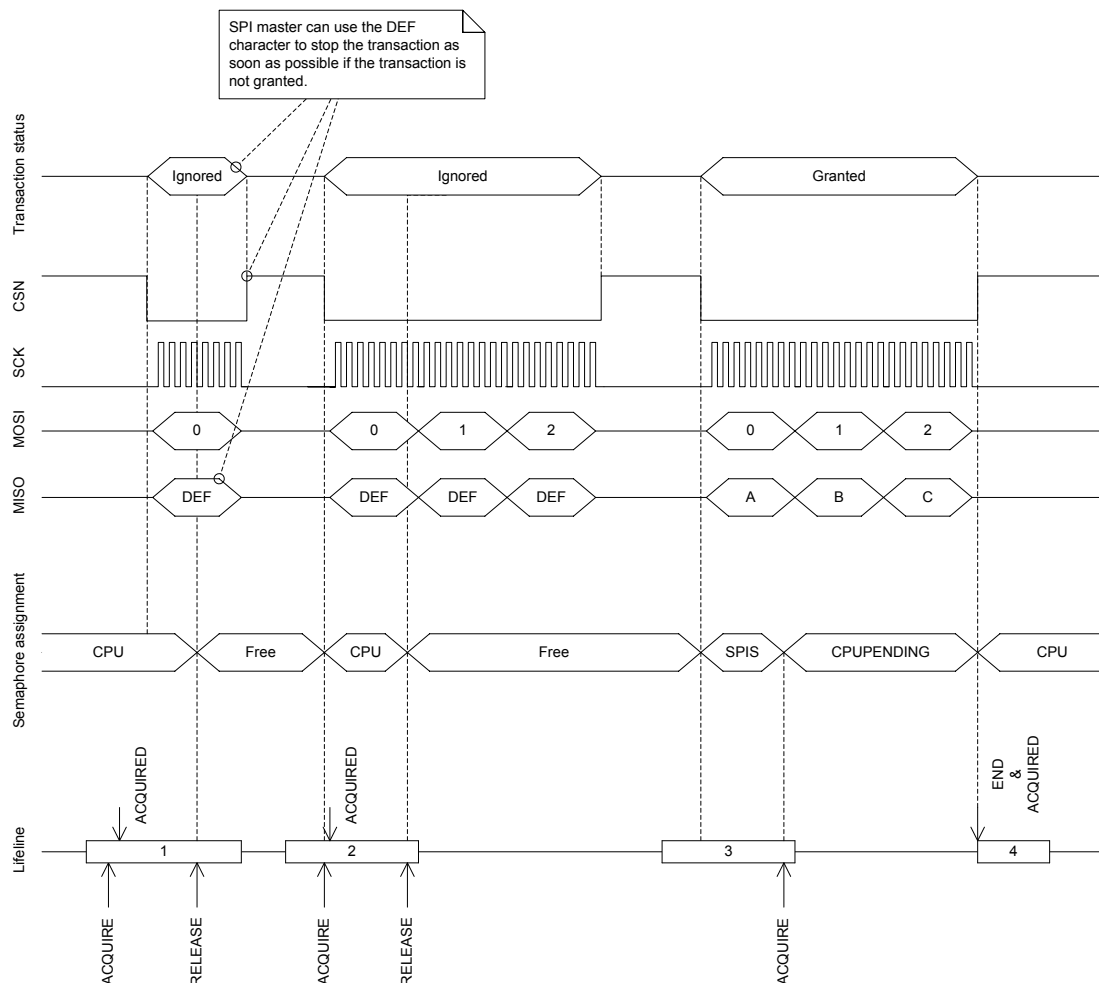

Figure 73: SPI transaction when shortcut between END and ACQUIRE is enabled
See Figure 73: SPI transaction when shortcut between END and ACQUIRE is enabled on page 290.
Before the CPU can safely update the RXD.PTR and TXD.PTR pointers it must first acquire the SPI semaphore. The CPU can acquire the semaphore by triggering the ACQUIRE task and then receiving the ACQUIRED event. When the CPU has updated the RXD.PTR and TXD.PTR pointers the CPU must release the semaphore before the SPI slave will be able to acquire it. The CPU releases the semaphore by triggering the RELEASE task. This is illustrated in Figure 73: SPI transaction when shortcut between END and ACQUIRE is enabled on page 290. Triggering the RELEASE task when the semaphore is not granted to the CPU will have no effect.
The SPI slave will try to acquire the semaphore when CSN goes low. If the SPI slave does not manage to acquire the semaphore at this point, the transaction will be ignored. This means that all incoming data on MOSI will be discarded, and the DEF (default) character will be clocked out on the MISO line throughout the whole transaction. This will also be the case even if the semaphore is released by the CPU during the transaction. In case of a race condition where the CPU and the SPI slave try to acquire the semaphore at the same time, as illustrated in lifeline item 2 in Figure 73: SPI transaction when shortcut between END and ACQUIRE is enabled on page 290, the semaphore will be granted to the CPU.